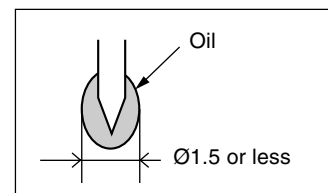

Fig. 1
- (1) Cut washers removed at the time of part replacement etc. should be replaced with new ones without fail.
- (2) Because no volume adjustment is available in this mechanism, cleaning or part replacement should be performed if the setting is not satisfied.
- (3) About oil
- c) The term "One drop of oil" here means the amount of oil on the point of a needle etc. shown in Fig.1.
- (4) Repairing of circuits, final adjustment of running system, etc. should be performed with the cassette controller assembly installed in the mechanism.
- (5) When operating the mechanism singly, apply voltage to the loading motor to drive it. The voltage between the terminals should be 3 to 4V DC. (Do not apply external voltage to the loading motor with the mechanism connected with the main circuit board. Doing so could cause a failure.)